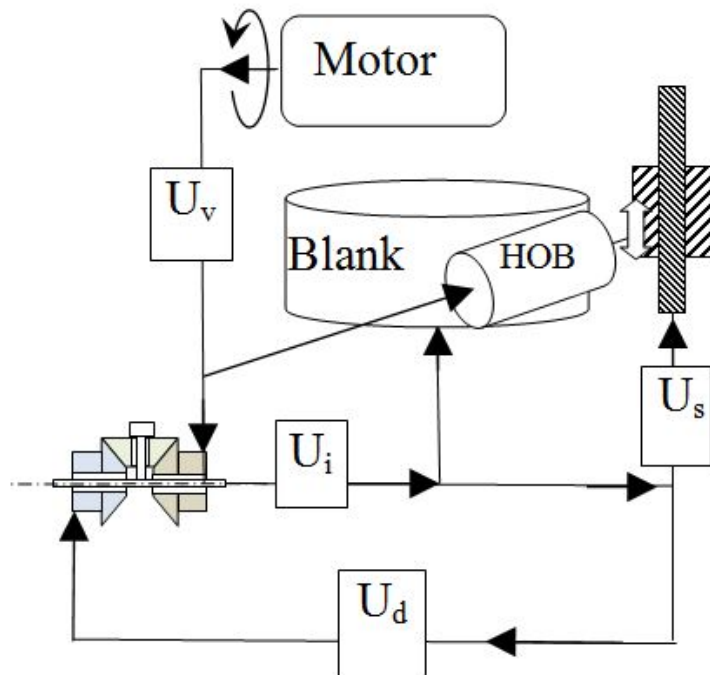

Fig. 3
6) In the following gear hobbing machine configuration as shown in Fig. 3, there will be a problem as follows